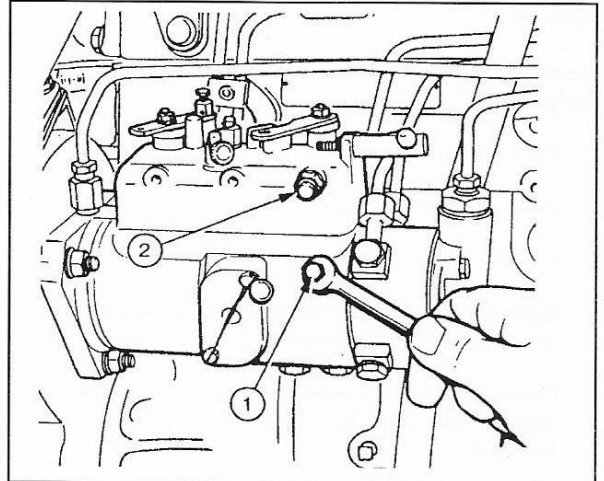

Fig. 79
4. Slacken the lower vent plug (1, Fig. 79) on the fuel injection pump and operate the fuel lift pump until fuel, free of air bubbles issues from the vent, then retighten the vent plug.
5. Slacken the upper vent plug (2) on the fuel injection pump and operate the fuel lift pump until fuel, free of air bubbles, issues from the vent, then retighten the vent plug.